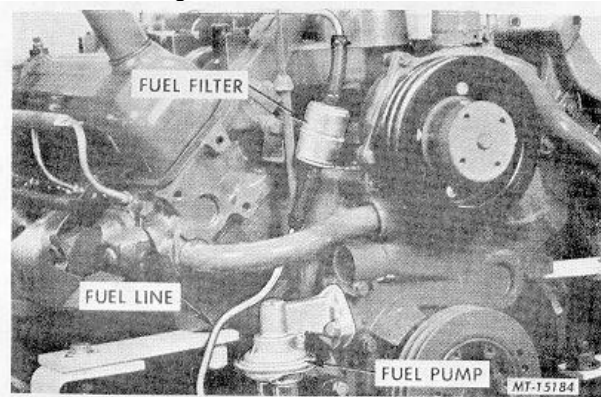

Fig. 16 Removing Fuel Line and Filter from Pump
20. Loosen fuel line at fuel pump and remove fuel line and filter, Fig. 16.